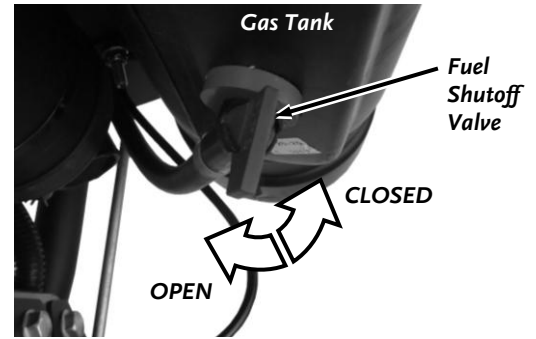
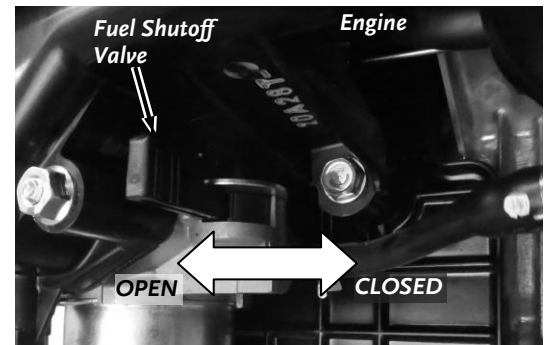

Figure 15a
Figure 15b
- Ensure that the Fuel Shut-Off Valve located under the Fuel Tank is open (**Figure 15a** XD30 Machines or **Figure 15b** XD26 machines).
**Note:** Close the Fuel Shut-Off Valve when transporting or storing the Mower (**Figure 15a**).
**Note:** Close the Fuel Shut-Off Valve when transporting or storing the Mower (**Figure 15b**).